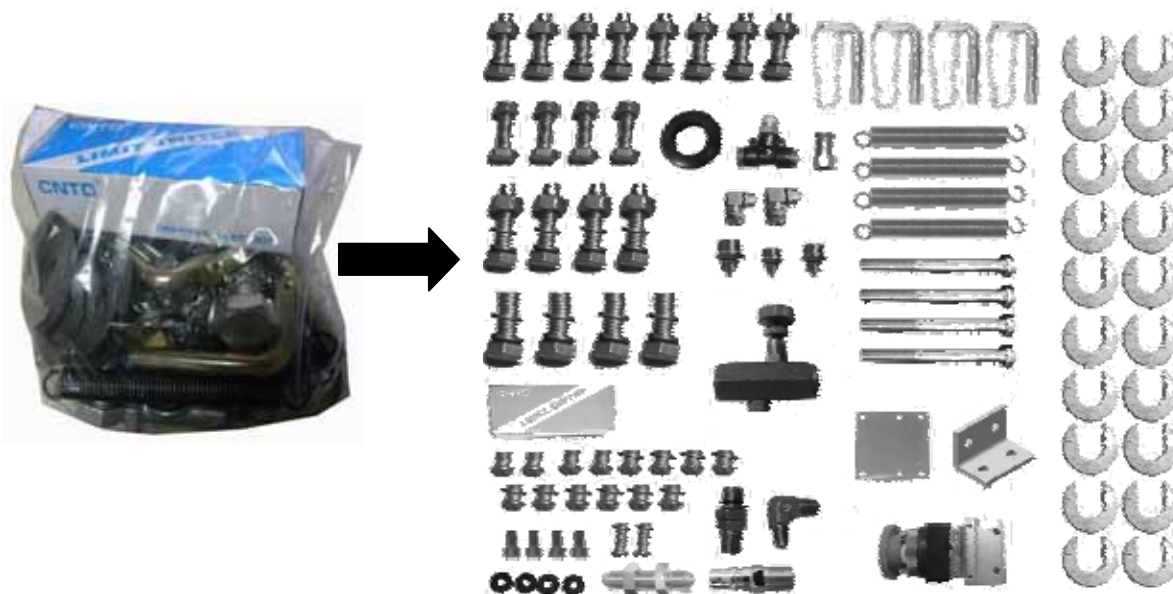

Fig. 9
7. Check the parts bag according to the parts bag list (See Fig. 9).